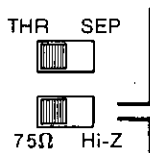

Fig. 1
When a single video signal is supplied to the Input A Connector (5) or Input B Connector (10), set this switch to THR position (Fig. 1). This will provide six (6) identical and isolated outputs to the Output A Connector (6) and the Output B Connector (7). The Termination Switch (11) should be set to 75Ω position (Fig. 1).